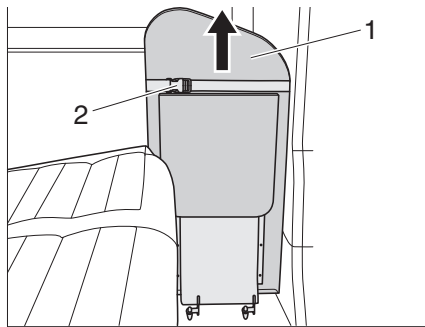

Fig. 33 Folding out the table-top
Folding out the table-top: ■ Open the fastener of the tensioning strap (Fig. 33,2).
■ Push the table-top (Fig. 33,1) upwards as far as it will go and then swivel it downwards until the holder engages.
■ Close the fastener of the tensioning strap (Fig. 33,2).